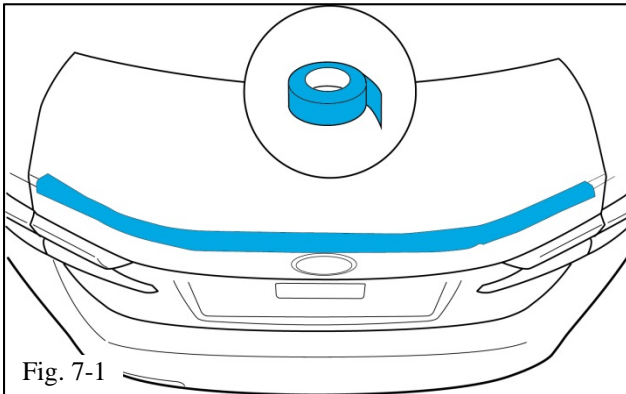

Fig. 7-1
- (a) Place masking tape on the drilling area (Fig. 7-1).